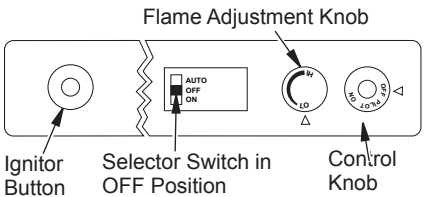

Figure 27 - Control Knob and Ignitor Button Location (Shown as Supplied, No Control Options)
- Press in and turn control knob clockwise ↻ to the OFF position (see Figure 27).
- Wait five (5) minutes to clear out any gas. Then smell for gas, including near the floor. If you smell gas, STOP! Follow "B" in the safety information, column 1, page 19. If you don't smell gas, go to the next step.
- Press in and turn control knob counterclockwise ↻ to the PILOT position. Press in control knob for five (5) seconds (see Figure 27).